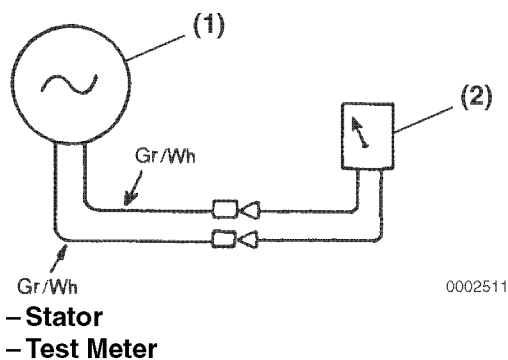

Figure 9-7
2. Connect a test meter to the stator leads. Set the meter to read 100 volts AC (**Figure 9-7**).